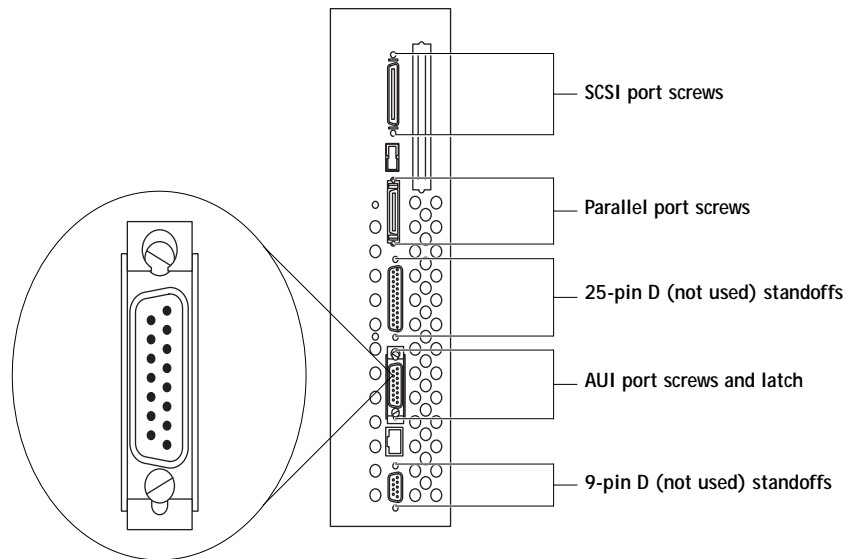

FIGURE 4-8 External connector hardware on E-650 pan
9. Remove and set aside the screws (and washers, if present), standoffs, and AUI latch that attach the external connectors to the pan (see Figure 4-8).
4. Insert the screws (and washers, if present), standoffs, and AUI latch that attach the external connectors to the pan (see Figure 4-8 on page 4-12).
For the AUI latch, use a small flat-blade screwdriver to install the screws. Orient the AUI latch according to Figure 4-8 on page 4-12. Install one screw almost completely, place the latch over the connector, then install the second screw.